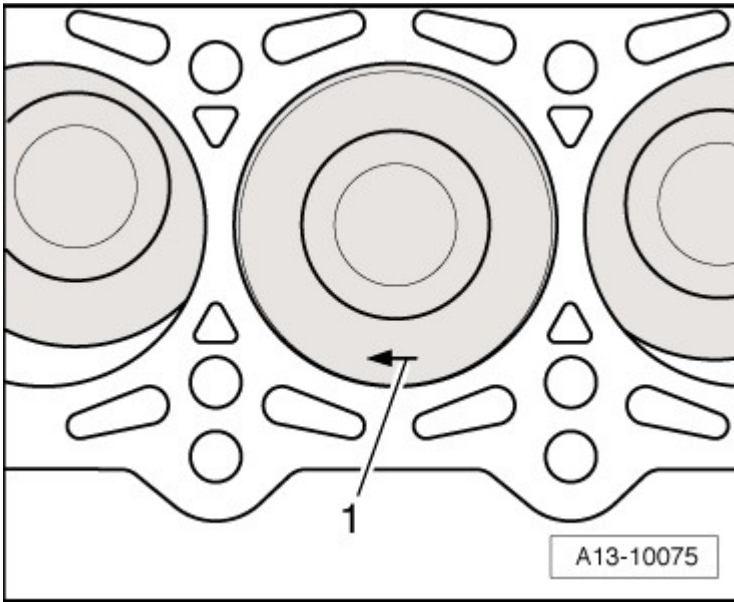

Fig. 17: Piston, Installed Position
- Mark the installation position and cylinder allocation, refer to **Fig. 17**